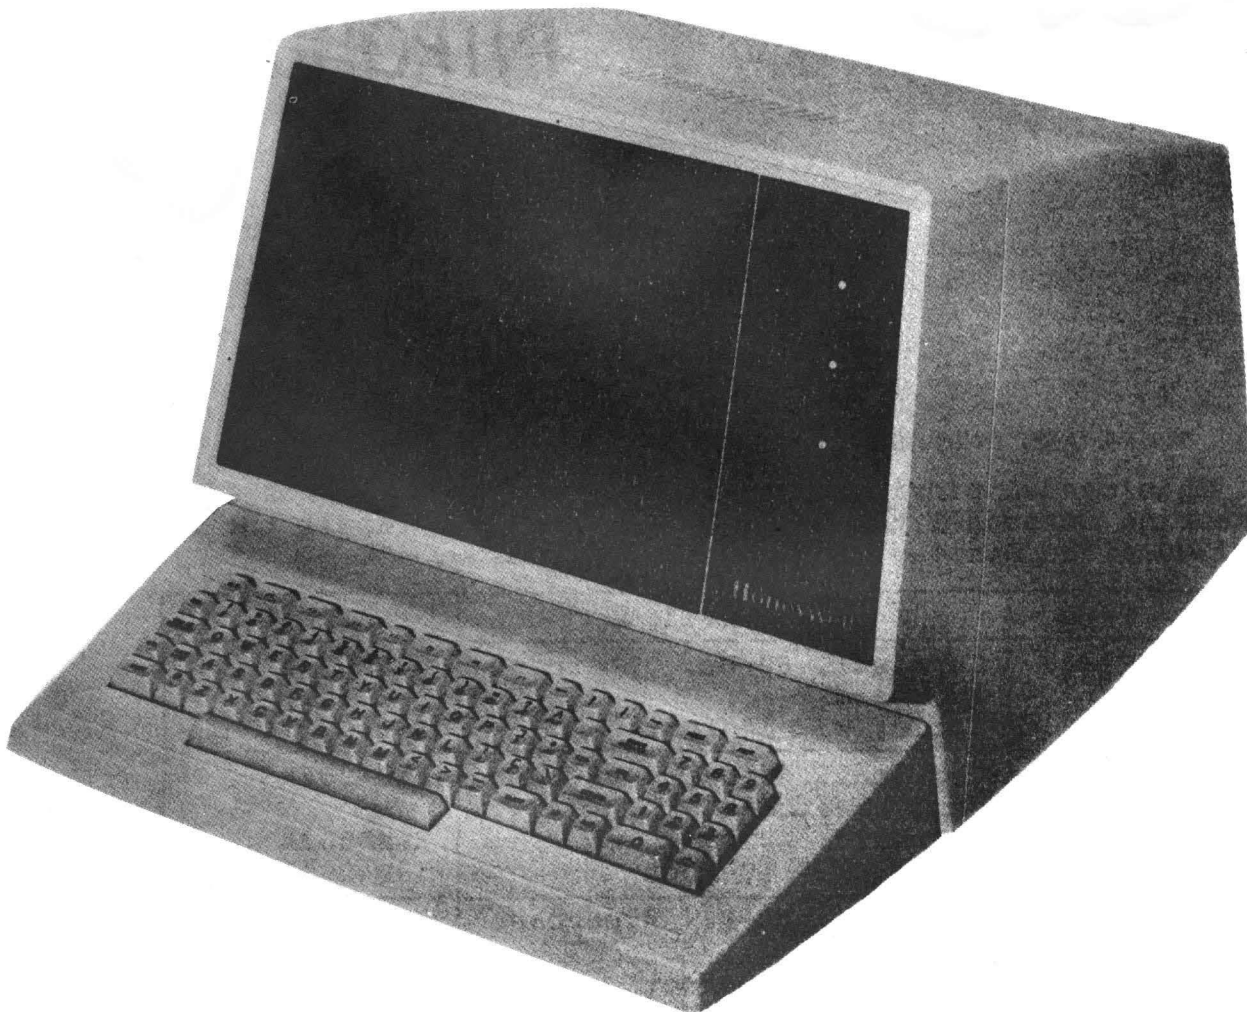

Figure 1-1 VIP7200 Video Display Terminal
The VIP7200 Video Display Terminal consists of: (1) a logic and CRT display unit and (2) a separate keyboard unit with an interconnecting ribbon cable (see Figure 1-1). It is a one-at-a-time character mode keyboard entry device capable of block transmission over the communications interface. It can emulate all of the functions of an ASR/KSR33 except for hard copy output; however, an extension port allows auxiliary input and/or output devices (such as a serial printer) to be connected directly to the terminal.